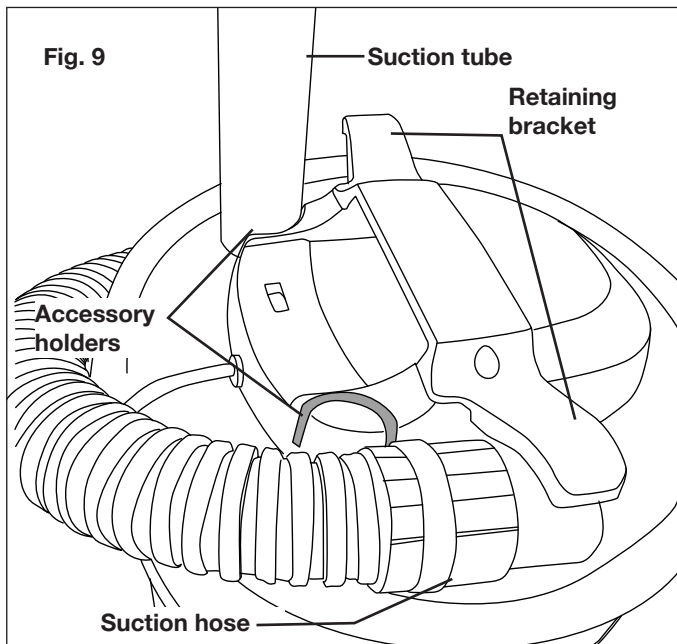

Fig. 9
- During rest periods, you can use the accessory holder located on the container lid to secure the suction tube, and you can secure the suction tube under the retaining bracket (Fig. 9).